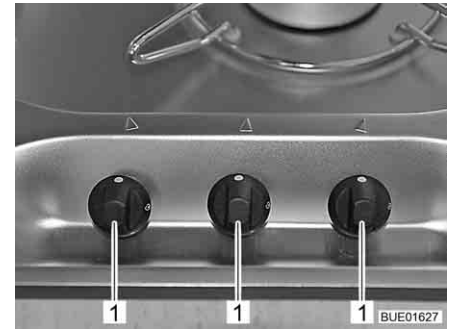

Fig. 207 Operating controls for gas cooker
- Turn the control knob (Fig. 207,1) on the burner you wish to use to the ignition position (large flame).